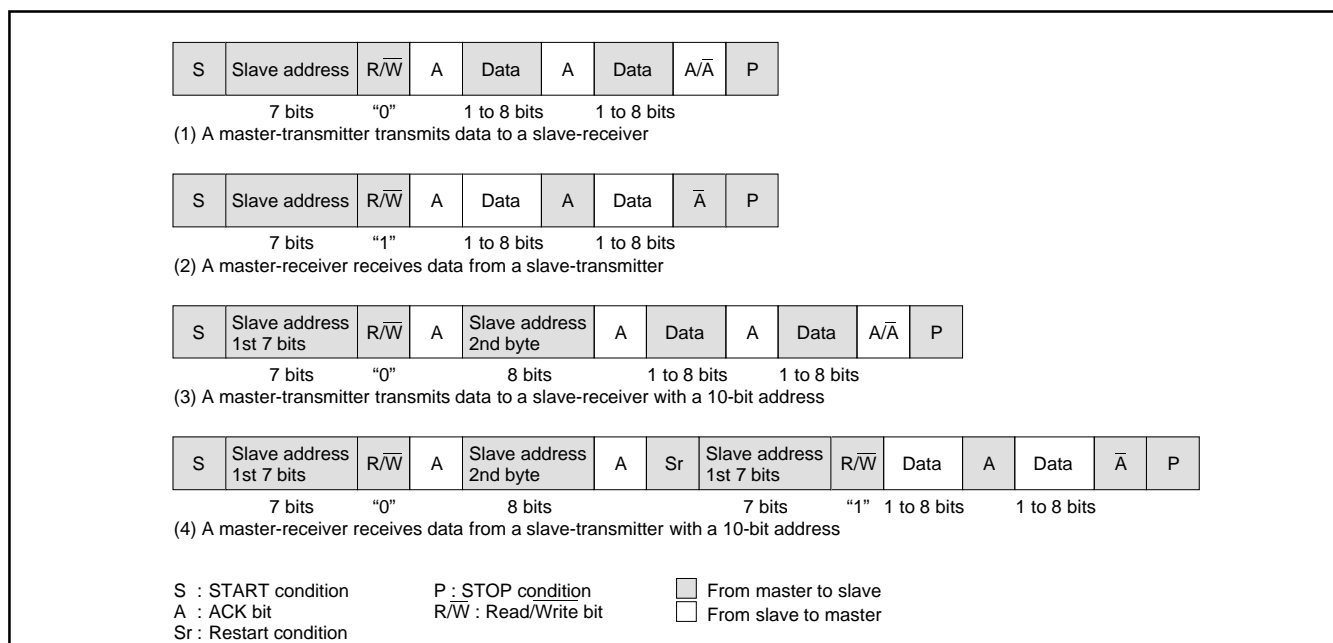

Fig. 8.6.12 Address Data Communication Format
(1) 7-bit addressing format
To meet the 7-bit addressing format, set the 10BIT SAD bit of the I²C control register (address 00DA₁₆) to "0." The first 7-bit address data transmitted from the master is compared with the high-order 7-bit slave address stored in the I²C address register (address 00D8₁₆). At the time of this comparison, address comparison of the RBW bit of the I²C address register (address 00D8₁₆) is not made. For the data transmission format when the 7-bit addressing format is selected, refer to Figure 8.6.12, (1) and (2).
(2) 10-bit addressing format
When the first-byte address data matches the slave address, the AAS bit of the I²C status register (address 00D9₁₆) is set to "1." After the second-byte address data is stored into the I²C data shift register (address 00D7₁₆), make an address comparison between the second-byte data and the slave address by software. When the address data of the 2nd bytes matches the slave address, set the RBW bit of the I²C address register (address 00D8₁₆) to "1" by software. This processing can match the 7-bit slave address and R/W data, which are received after a RESTART condition is detected, with the value of the I²C address register (address 00D8₁₆). For the data transmission format when the 10-bit addressing format is selected, refer to Figure 8.6.12, (3) and (4).